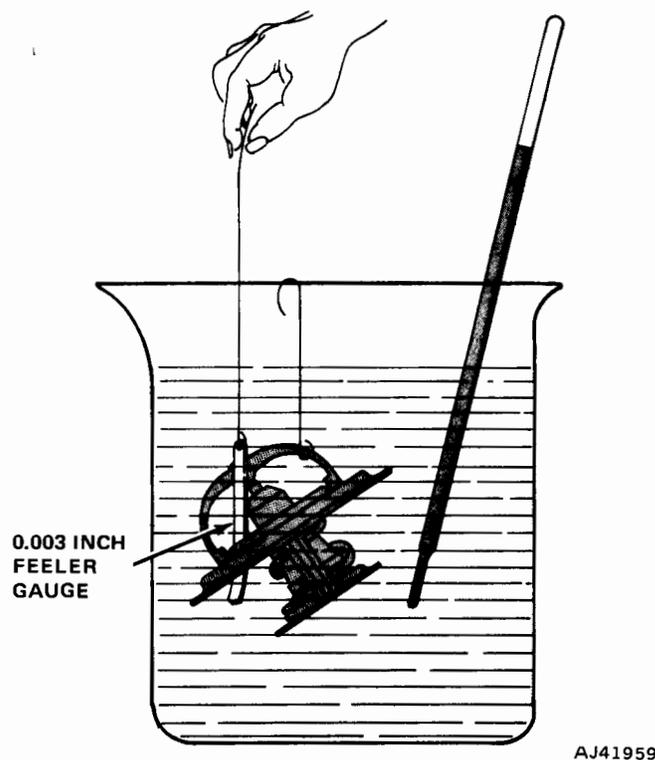

Fig. 2-6 Testing Thermostat
- (1) Remove thermostat.
- (2) Insert 0.003-inch feeler gauge, with wire or string attached, between valve and seat (fig. 2-6).
- (3) Submerge thermostat in a container of anti-freeze and water solution, suspended so it does not touch sides or bottom of container.
- (4) Suspend a thermometer in solution so it does not touch container.
- (5) Heat solution.
- (6) Apply slight tension on feeler gauge while solution is heated. The moment valve opens 0.003 inch, feeler gauge will slip free from valve. Note temperature at which this occurs. Valve must be open 0.003 inch at 192°F to 199°F. It must be fully open a minimum of 0.360 inch at 219°F ($\pm 3^\circ\text{F}$).
- (7) Install thermostat.